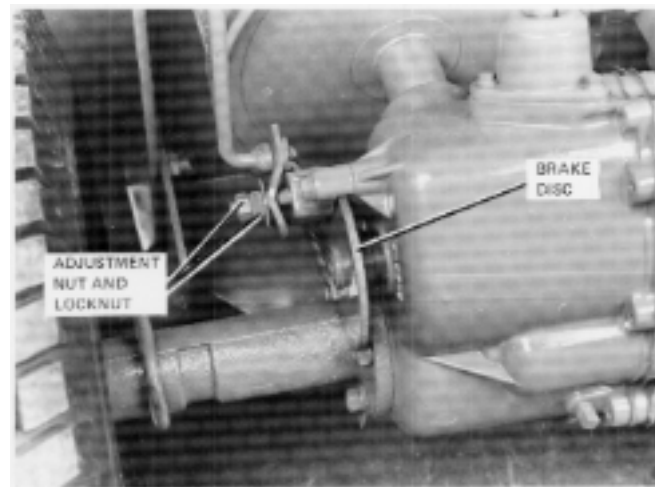

Fig. 5-2 B-Series Brake Adjustment
The B-Series employs a positive action disc type brake on the transaxle. See Fig. 5-2.
2. Loosen lock nut and tighten adjusting nut on brake cam lever. See Fig. 5-2.